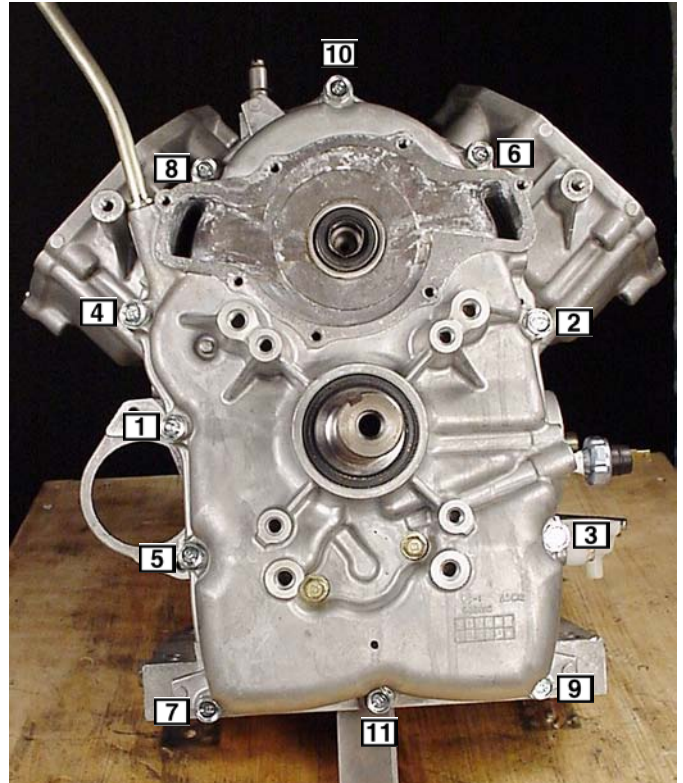

Fig. 145
2. Torque screws in sequence shown to 200 in. lbs. (23 Nm), Fig. 145.